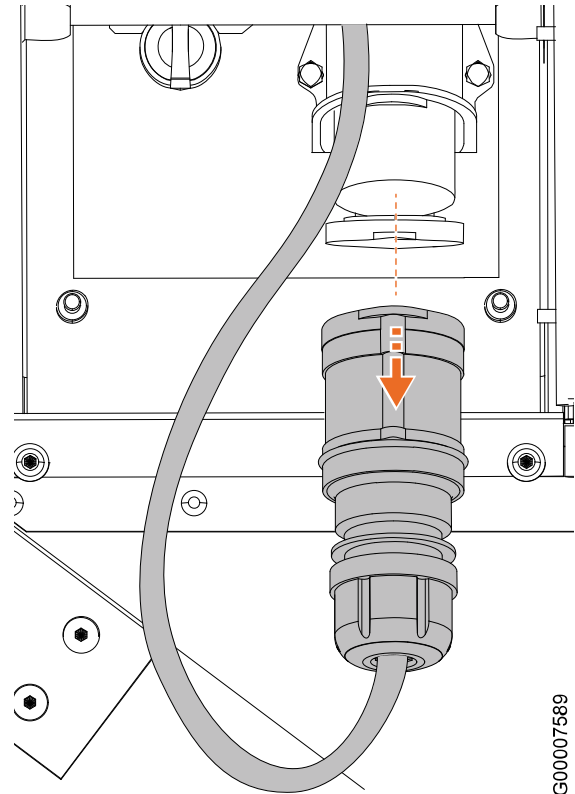

Fig. 28
5. Disconnect the charging cable and connect the appropriate type of adapter (**Fig. 28**).
8. Disconnect the adapter from the socket in the container, and connect the original charging cable to the socket (**Fig. 28**).